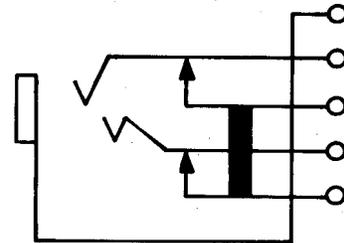

Fig. 16—239-Type Jack
2.16 239A, C, E, AM, CM, and FM: These single-mounted jacks (Fig. 16) are used with 150, 184, 213, 262, 310, 320, 331, 338, and 349 plugs. These jacks are heavily insulated. These jacks are mounted with the springs in a vertical plane.